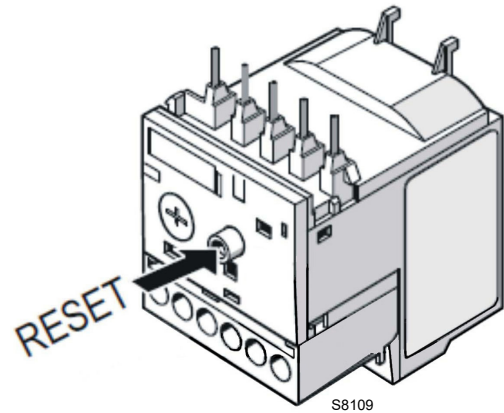

Fig. 27
- To reset, in the case of an intervention of the thermal relay, press the button **"RESET"** (Fig. 27).